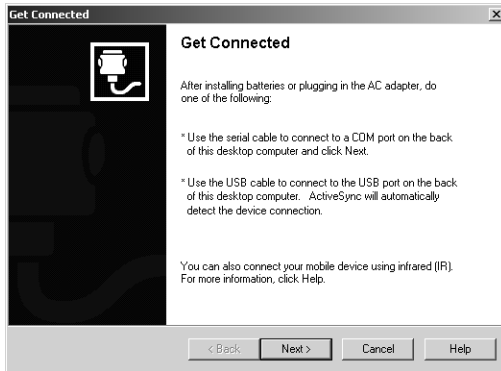

Figure 2-11. ActiveSync – Get Connected
- Click **Next** on the *Get Connected* dialog box (Figure 2-11 on page 2-7).